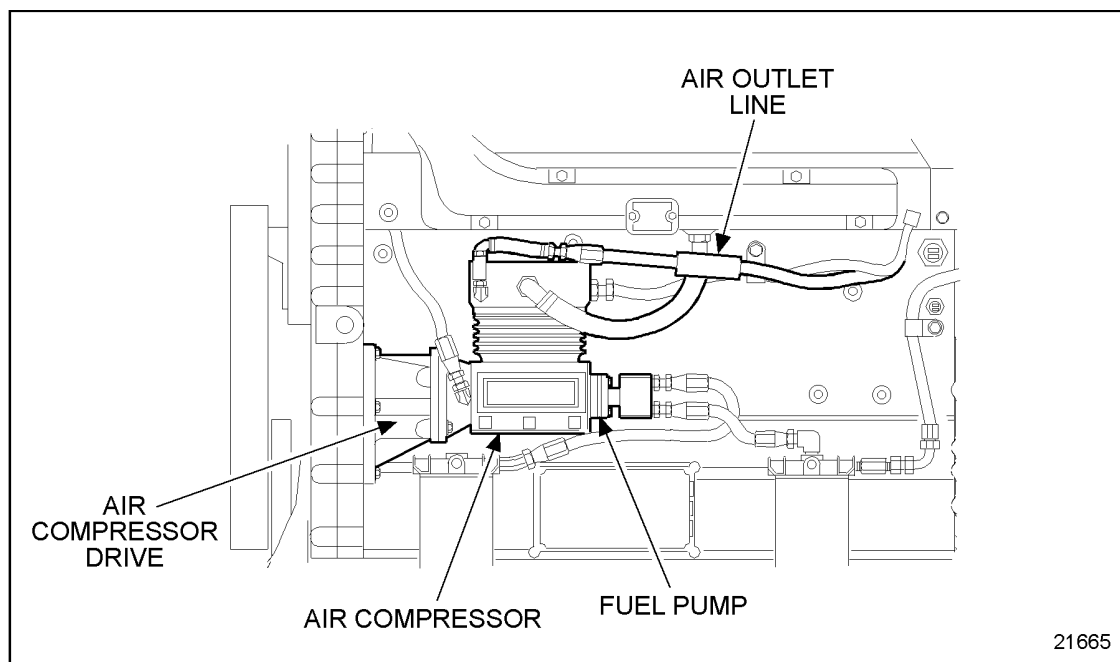

Figure 19-1 Air Compressor Air Outlet Line
2. Disconnect the air outlet line from the air compressor; see Figure 19-1; refer to Section 10.1.2.